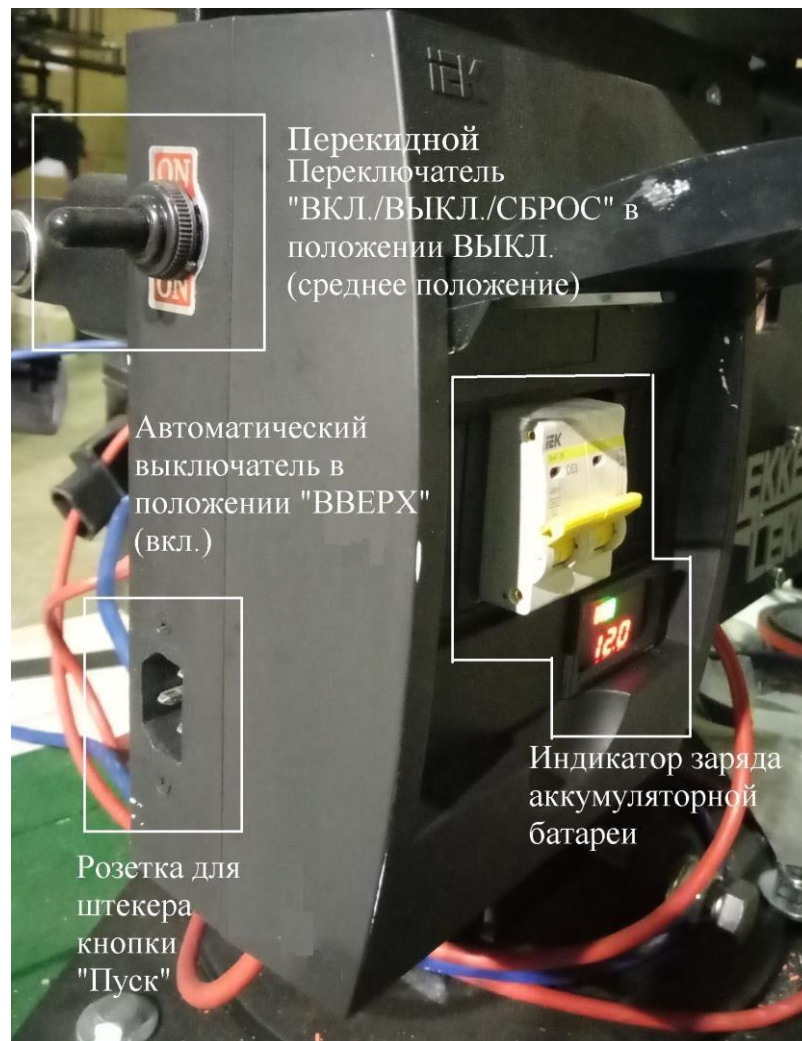

Figure 2: Location of switches
3.3.3 Before connecting the battery to the machine, check the operation of the ON/OFF/RESET toggle switch to make sure the switch is in the middle "OFF" position.(see Figure 2).
3.3.6 Open the control box cover (see Figure 2). Turn the fuse circuit breaker to the UP ("ON") position.
4.5 Insert the plug of the start button cable into the control unit of the throwing machine. (see figure 2)